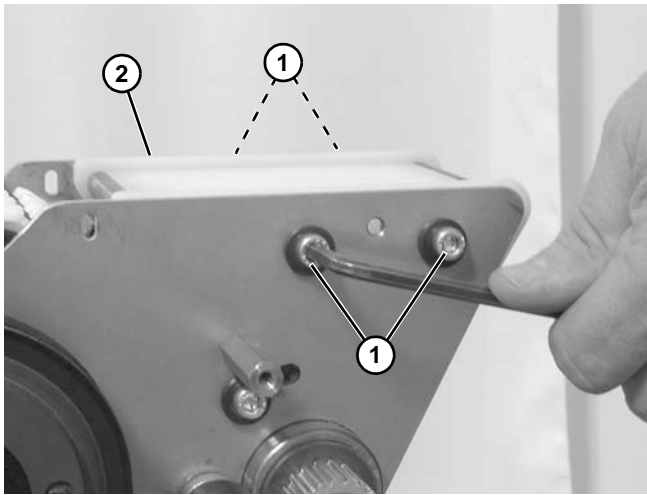

Figure 165
9. Remove four socket head screws (**Figure 165, item 1**) holding wear bar assembly (**Figure 165, item 2**) onto power transfer.